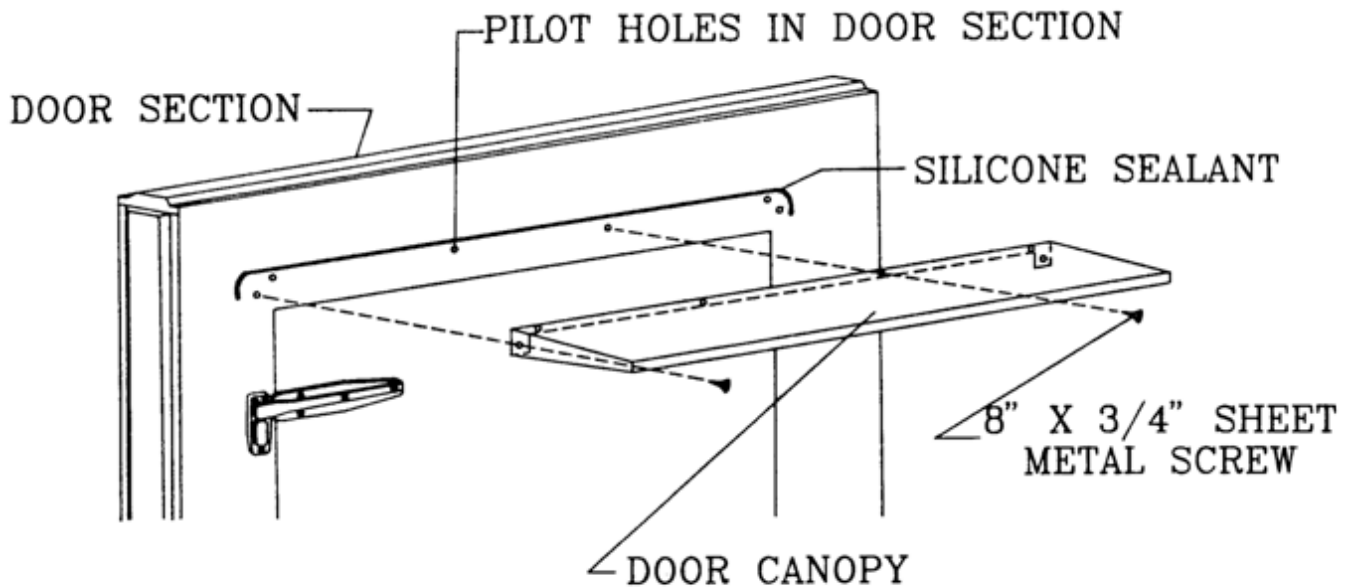

FIGURE 26 - Door Canopy Installation
1. A door canopy must be installed on all doors exposed to the exterior. Pilot screw holes are provided in the door section (Refer to Figure 26).